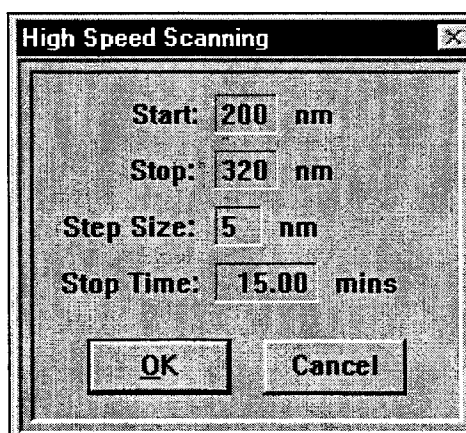

Figure 5-44 High Speed Scanning Screen—BioFocus 3000
2. If you choose High Speed Scanning, you will see another screen (Figure 5-44) where you enter values for the following: the wavelength range you wish to scan between 190 and 365 nm or between 366 and 799 nm (start and stop), the interval between wavelengths (step size), and the total run time (stop time). Click **OK** to save the information and return to the detector setup screen.